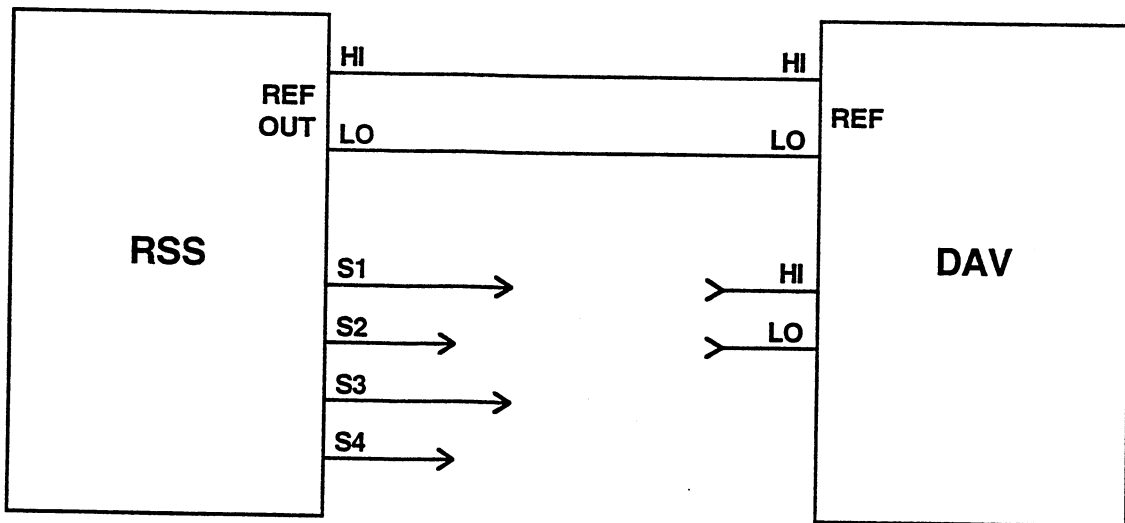

Figure 5-4. Test Setup, Phase Offset Tests
28. With power off, see figure 5-4 and connect test equipment as shown.